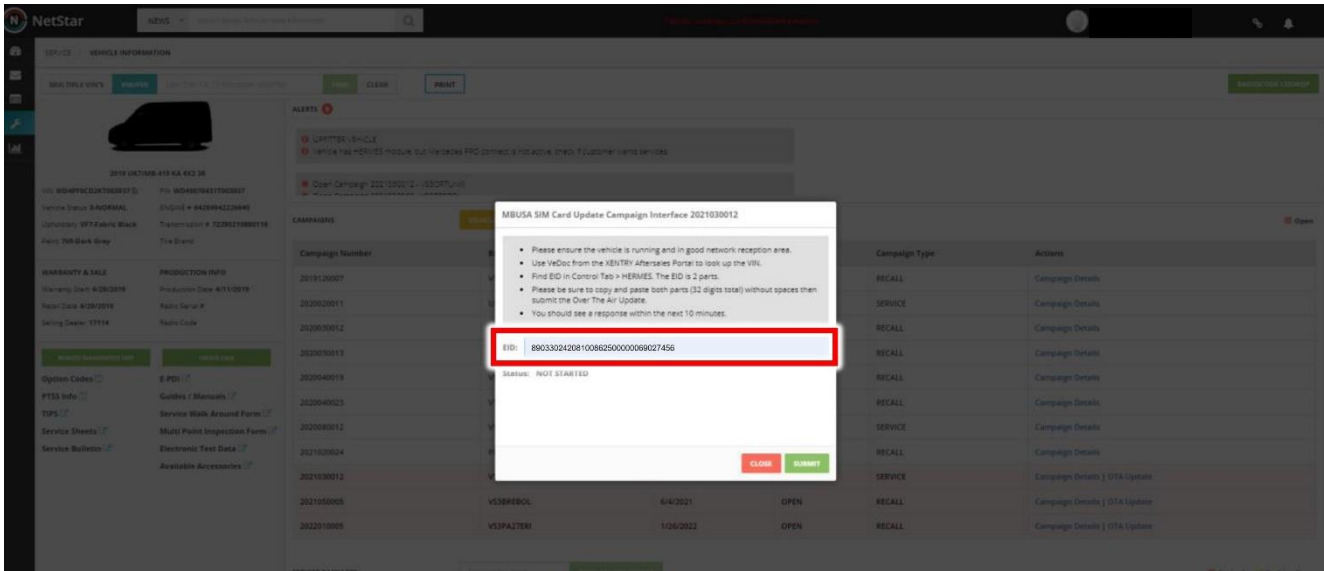

Figure 8 – EID1 + EID2 input
5. Enter the valid EID number and click on "Submit" (Figure 8).
**i** After you click "Submit", the following screens can be displayed depending on the results of the OTA Update: (Figures 8, 9, 10 11, and 12).